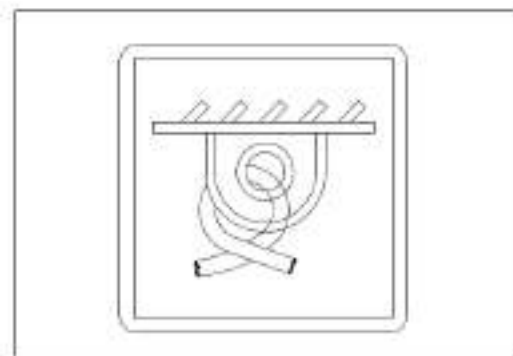

Figure 1-10 Tie point sign
(9) Tie point sign, as shown in Figure 1-10.